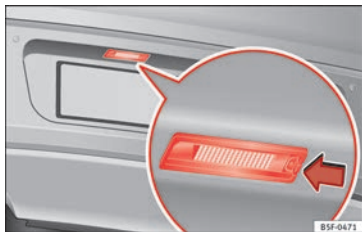

Fig. 117 In the rear bumper: number plate light.
1. Press the number plate light in the direction of the arrow »» Fig. 117.